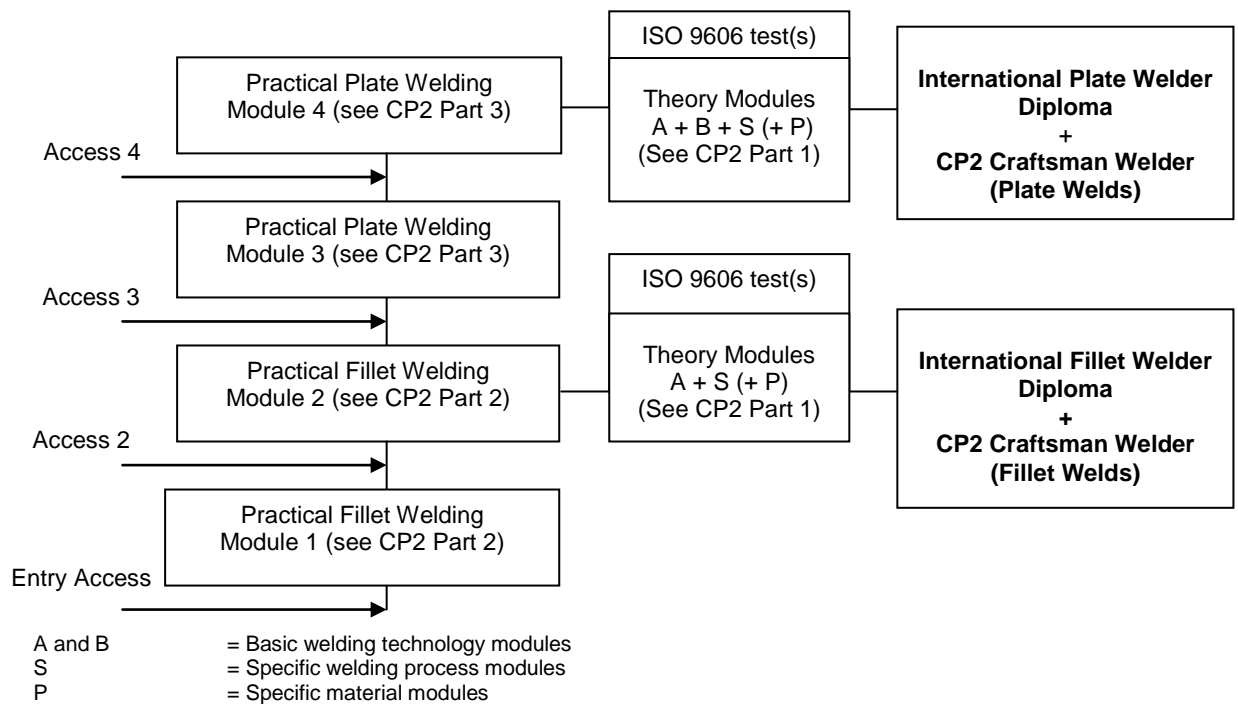

Figure 1 The overall structure of the training and examination under CP2.
The route to achieving a qualification under CP2 is shown in Figure 1. It can be seen from Figure 1 that there is a direct link between CP2 and the International Welder qualification under the International Institute of Welding (IIW) scheme¹. Therefore, the outcome from the CP2 programme is both the NWTS and the IIW qualification. The latter ensures that the welder's knowledge and skills is recognised throughout the world.
This document, CP2 Part 2, covers only the practical fillet welding modules shown in Figure 1.
- To perform the practical examinations that are defined in this Guideline for the level of the IW Diploma that the candidate is applying for, including the lower levels examinations. See Figure 1.